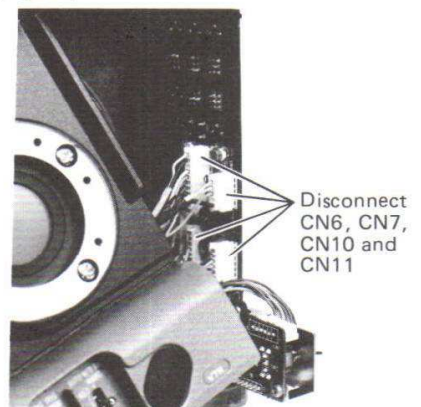

Fig. 3-6
- Disconnect CN6, CN7, CN10 and CN11 on the Mother board. (Fig.3-6)